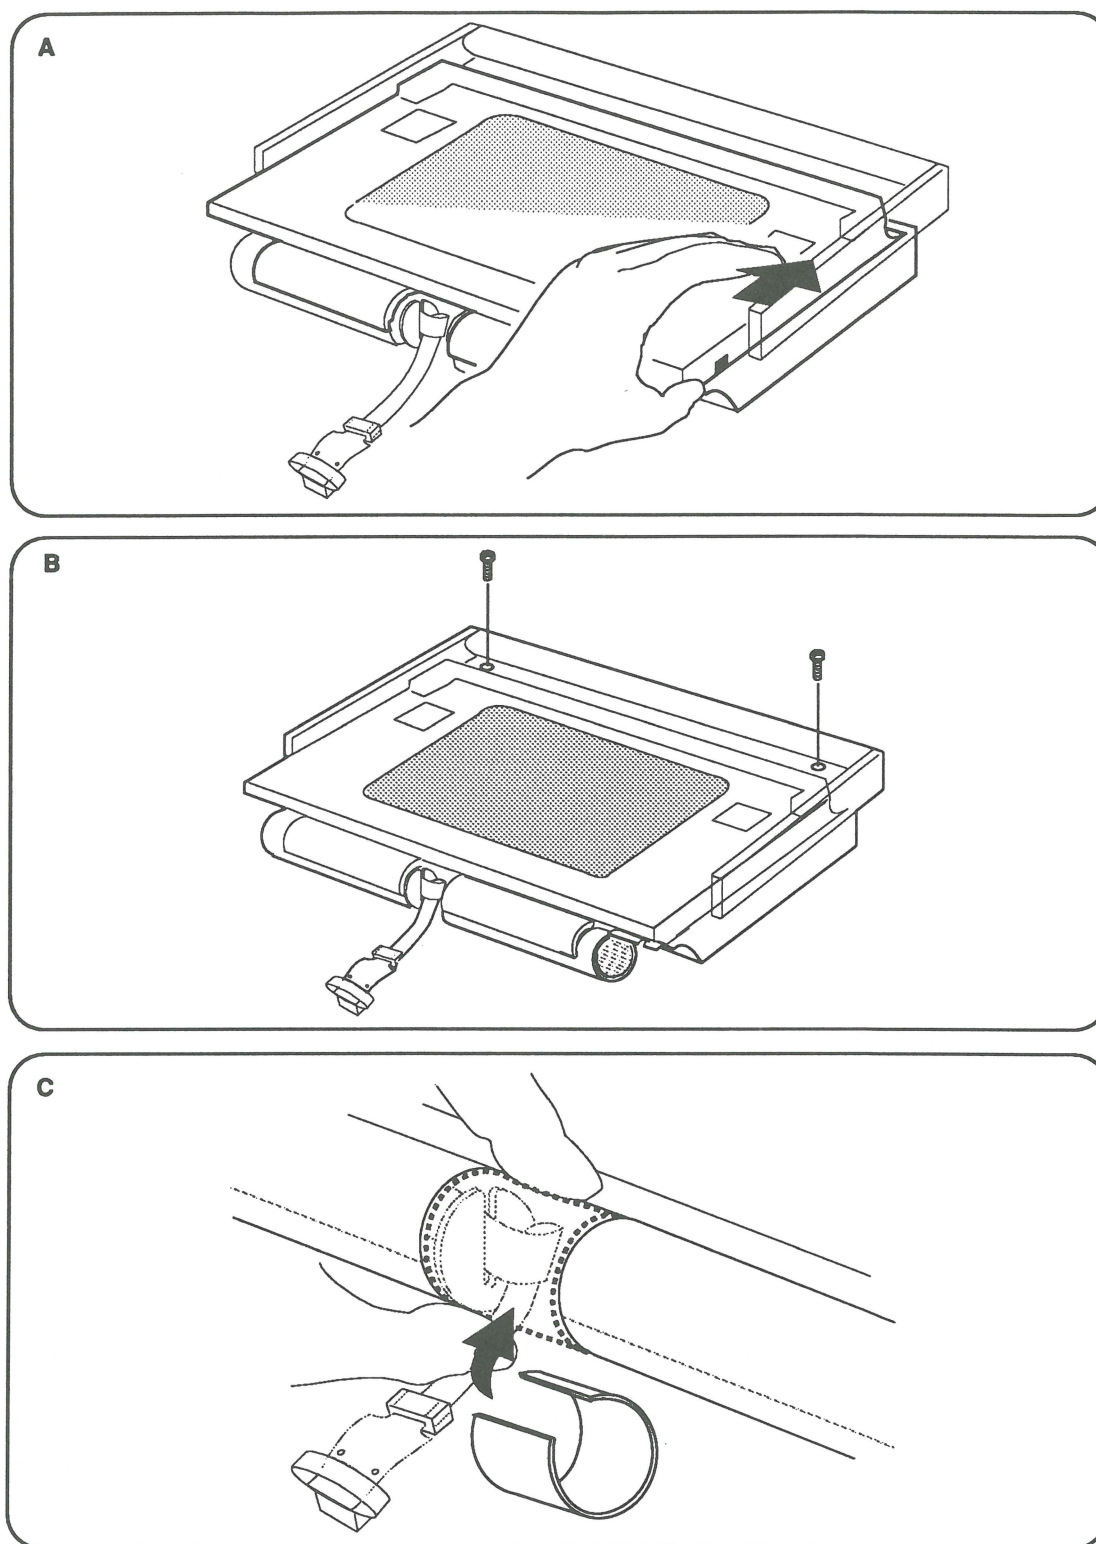

FIGURE 20
10. **Figure 20-A.** Slide the bezel evenly toward the top of the housing as shown in the illustration.
11. **Figure 20-B.** Replace the two Phillips screws at the upper-right and upper-left corners of the display bezel.
12. **Figure 20-C.** Snap the center pivot cover back on the display pivot as shown in the illustration.